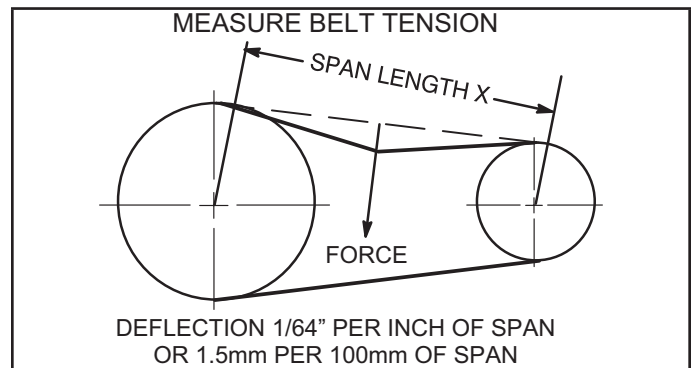

FIGURE 25
- 1 - Measure span length X. See FIGURE 25.
- 2 - Apply perpendicular force to center of span (X) with enough pressure to deflect belt 1/64" for every inch of span length or 1.5mm per 100mm of span length.